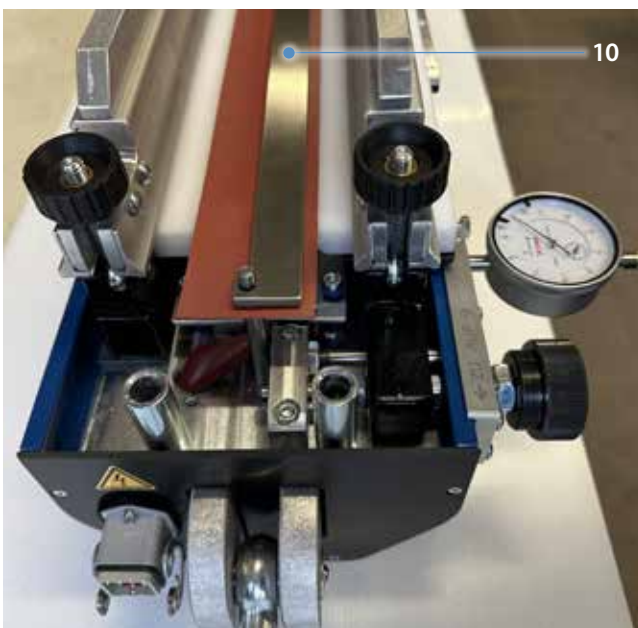

Fig. 4.2.4
- Adjustment aid, (see fig. 4.2.4)
8. Use the adjustment aid (10) to adjust the first end of the belt. Position the adjustment aid based on the perforations. (Fig. 4.2.4)